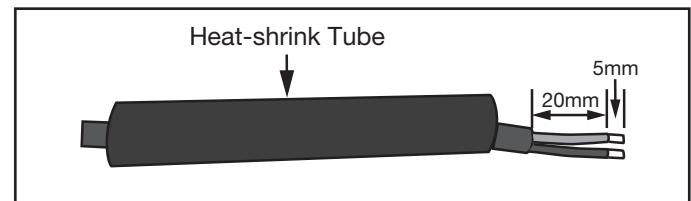

Figure 7. Apply Heat-shrink Tube
4. Slide the heat-shrink tube onto the longest cable and well away from the joint. This tube has to be kept clear of the solder splices when they are being heated. See Figure 7.